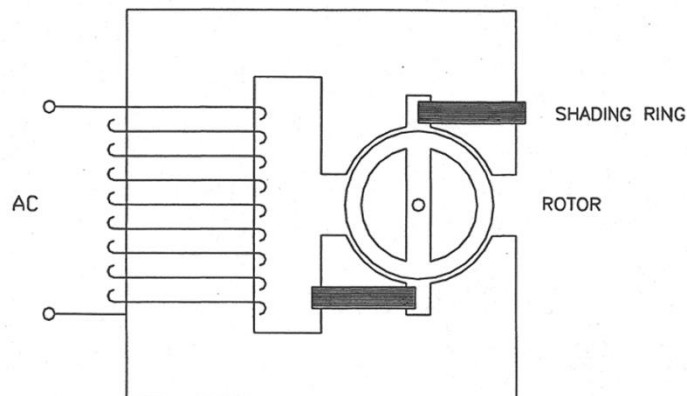

Figure 12 - Single phase hysteresis motor.
46. A typical hysteresis motor rotor consists of several flat discs of cobalt steel mounted on a shaft. The stator consists of two laminated magnetic poles, each of which has a shading ring, and a main a.c. stator coil - as shown in Figure 12.